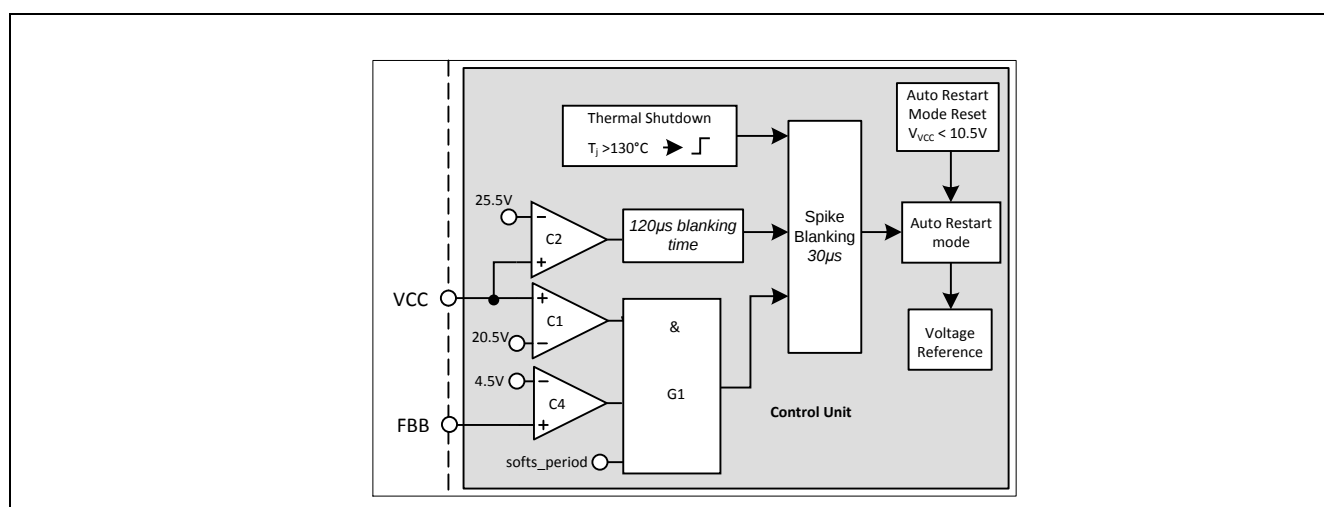

Figure 30: Vcc OVP and OTP
Vcc OVP (1) condition is when V_{VCC} voltage is > 20.5V, V_{FBB} voltage is > 4.5V and during soft start period, the IC enters into odd skip Auto Restart Mode. This condition likely happens during start up at open loop fault (Figure 30).
V_{CC} OVP (2) condition is when V_{VCC} voltage is > 25.5V, the IC enters into odd skip Auto Restart Mode (Figure 30).
The over temperature protection OTP is sensed inside the controller IC. The Thermal Shutdown block keeps on monitoring the junction temperature of the controller. After detecting a junction temperature higher than 130°C, the IC will enter into the non switch Auto Restart mode. The ICE3AR1580VJZ has also implemented with a 50°C hysteresis. That means the IC can only be recovered when the controller junction temperature is dropped 50°C lower than the over temperature trigger point (Figure 30).